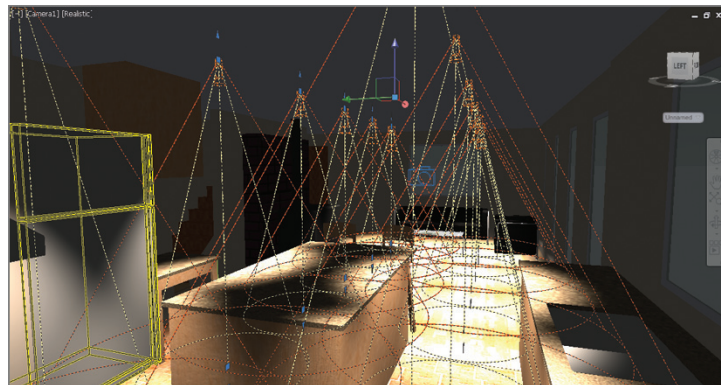

FIGURE 18.13 Selected spotlights reveal light coverage as seen in the camera view.
- In the Properties palette, change Lamp Intensity to **15000**, Hotspot Angle to **30**, and Falloff Angle to **60**. Figure 18.13 shows the resulting light glyphs in the drawing canvas. The outer orange cones represent the spotlight's falloff angle and the inner yellow cones represent the area of full light intensity. Close the Properties and Lights In Model palettes. Press Esc to deselect all.